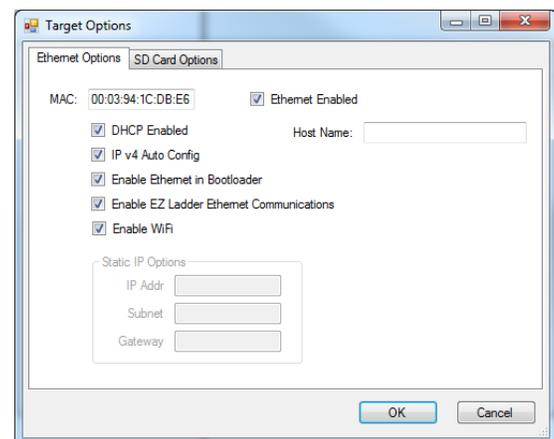

Figure 2-27 - SD Card Options
8. Click the **TARGET OPTIONS** button. The Target Options window will open. There will be two tabs in this window. Click the **ETHERNET** tab. See Figure 2-27.